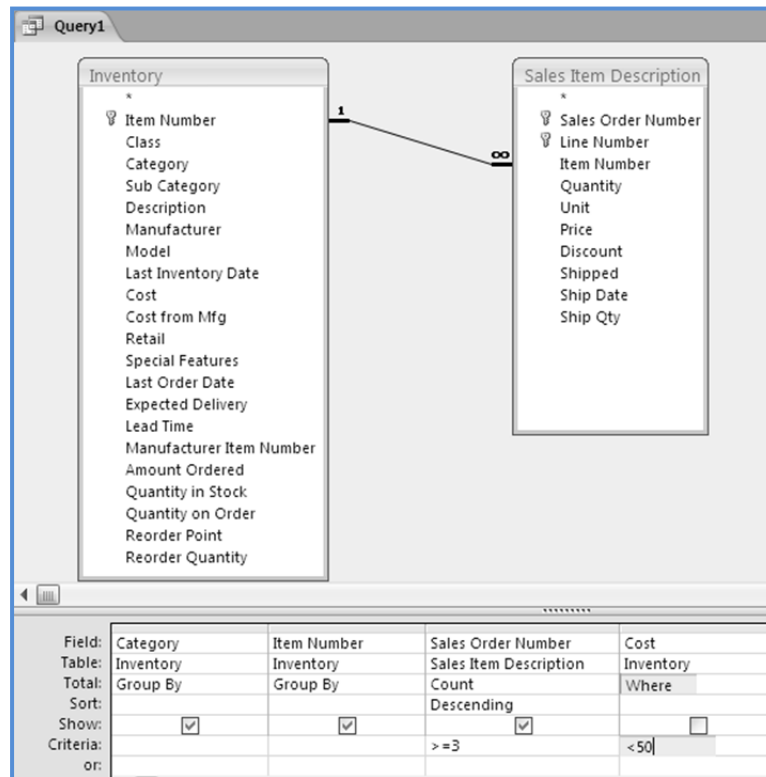

Fig. 1.2.38: Products with cost <50
- Change the *Group By* function of column *Cost* to *Where* clause in **Total** tab and write "<50" in the **Criteria** tab, as shown in Fig. 1.2.38.